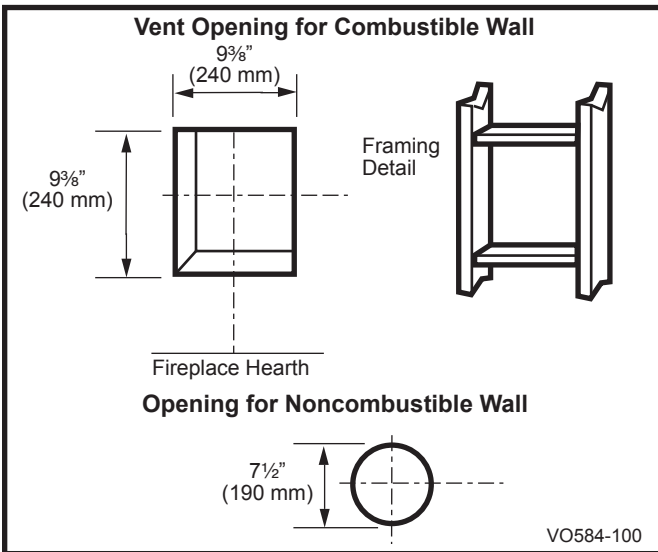

Fig. 15 Locate vent opening on wall.
Locate vent opening on the wall. It may be necessary to first position the fireplace and measure to obtain hole location. Depending on whether the wall is combustible or noncombustible, cut opening to size. (Fig. 15) (For combustible walls first frame in opening.)
Combustible Walls (Fig. 15): Cut a 9 3/8" H x 9 3/8" W (240 x 240 mm) hole through the exterior wall and frame.
Noncombustible Walls (Fig. 15): Hole opening must be 7.5" (190 mm) in diameter.
1. Establish vent hole through the wall. (Fig. 15)